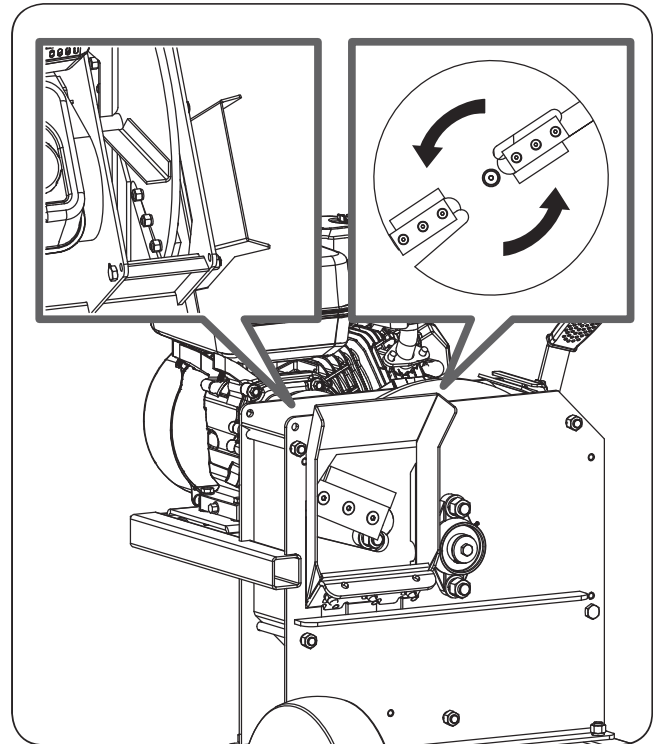

Figure 15
5. Rotate the cutting disc until the blade can be seen from the feed hopper side. (See **Figure 15**)